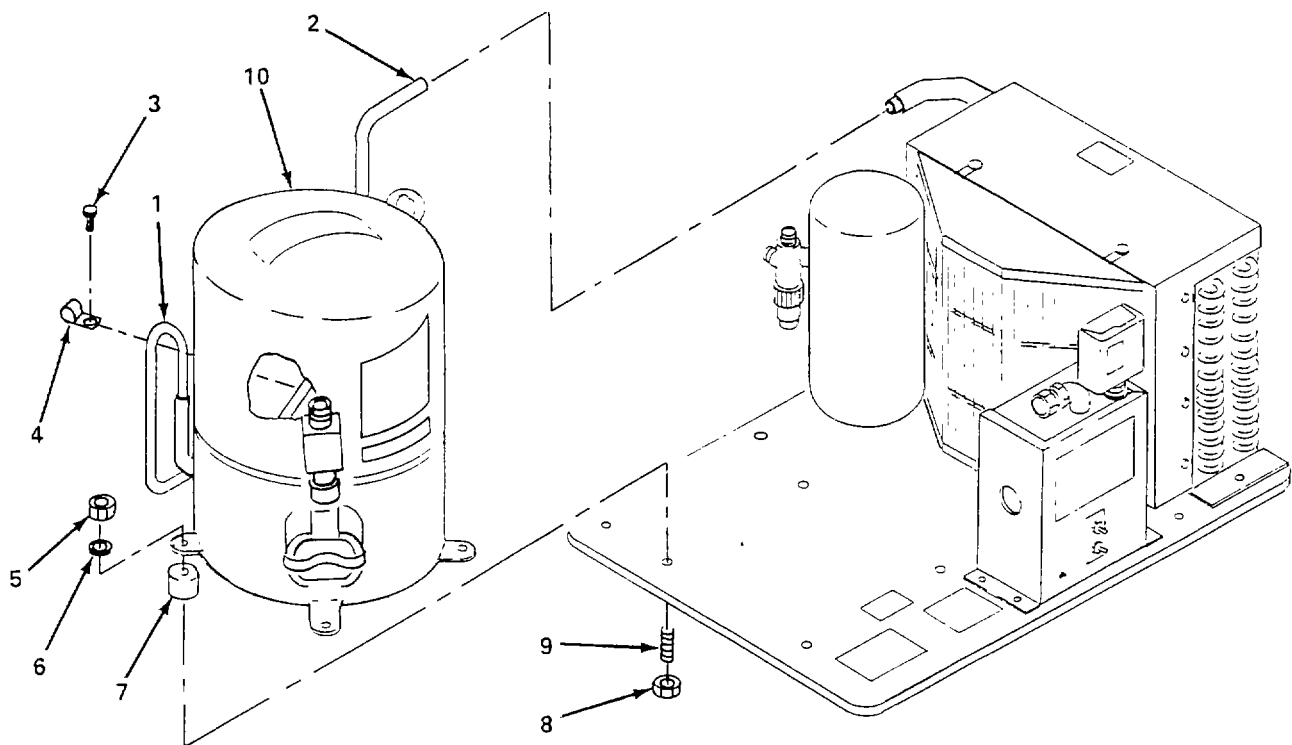

Figure 6-23. Condensing Unit Hermetic Compressor, Replace.
(4) *Replace compressor.* (figure 6-23).
- (b) Desolder tube (1) from tube discharge connector (2).
- (c) Remove screw (3) and tube clip (4).
- (d) Remove four nuts (5), lockwashers (6), grommets (7), locknuts (8), and studs (9) and remove compressor (10).
- (e) Install four studs (9), locknuts (8), and grommets (7).
- (f) Install compressor (10) and secure with lockwashers (6), and nuts (5).
- (g) Install tube clip (4) and screw (3).
- (h) Solder tube (1) on tube discharge connector (2).